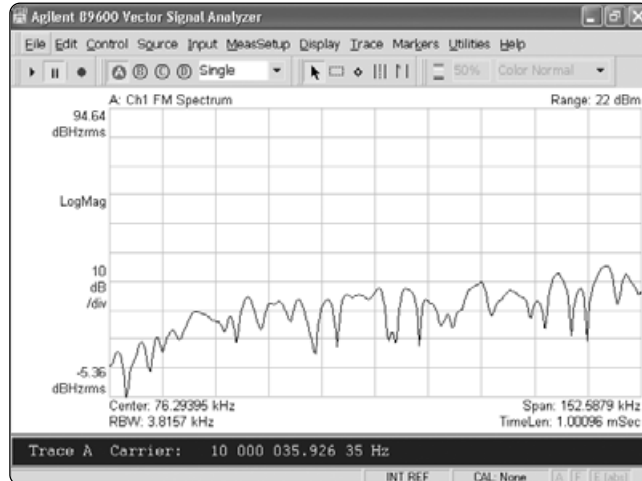

Figure 20. Calculating deviation from 10 MHz reference signal
6. In the example, Figure 20, the marker readout was 10,000,035.9 Hz, giving a deviation of 36 Hz which equates to 3.6 ppm.